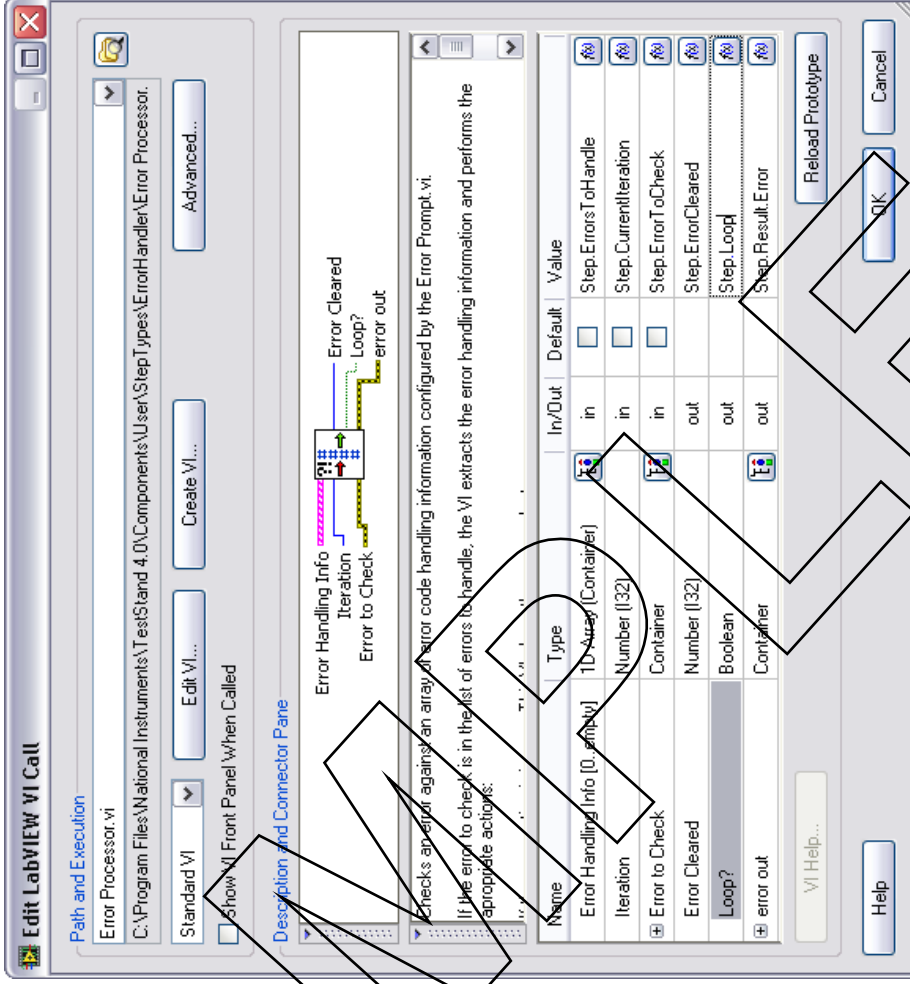

Figure 3-3. Post-Step Substep Module Settings
- Specify the parameter values as shown in Figure 3-3.